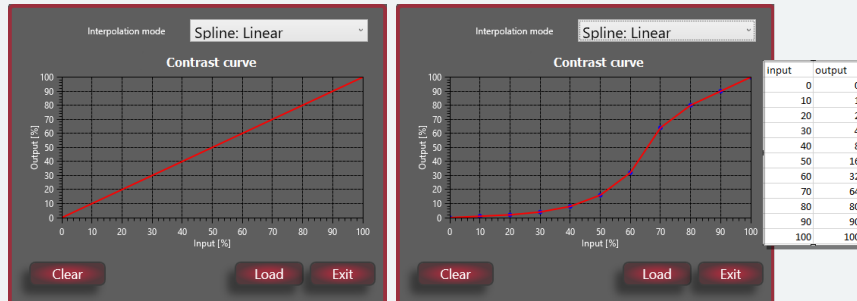

Figure 3-60 Default uncorrected curve (l) and contrast curve with correction including csv file(r)
During grayscale exposures, the **Fast Dac** setting (see **"Manual laser controls" on page 113**) is adjusted on the fly. By doing so, the system may use a contrast correction file. This file allows to correct for non-linear exposure/development effects. The contrast correction file defines a curve that maps the input (design value) to the output (laser power). It adds a correction factor to the requested writing laser intensities, as shown in the contrast curve examples of **Figure 3-60** below.
12.2. At **Contrast curve**, press the selection field to open the contrast curve window that shows the current contrast correction file, see the example in **Figure 3-60** above.